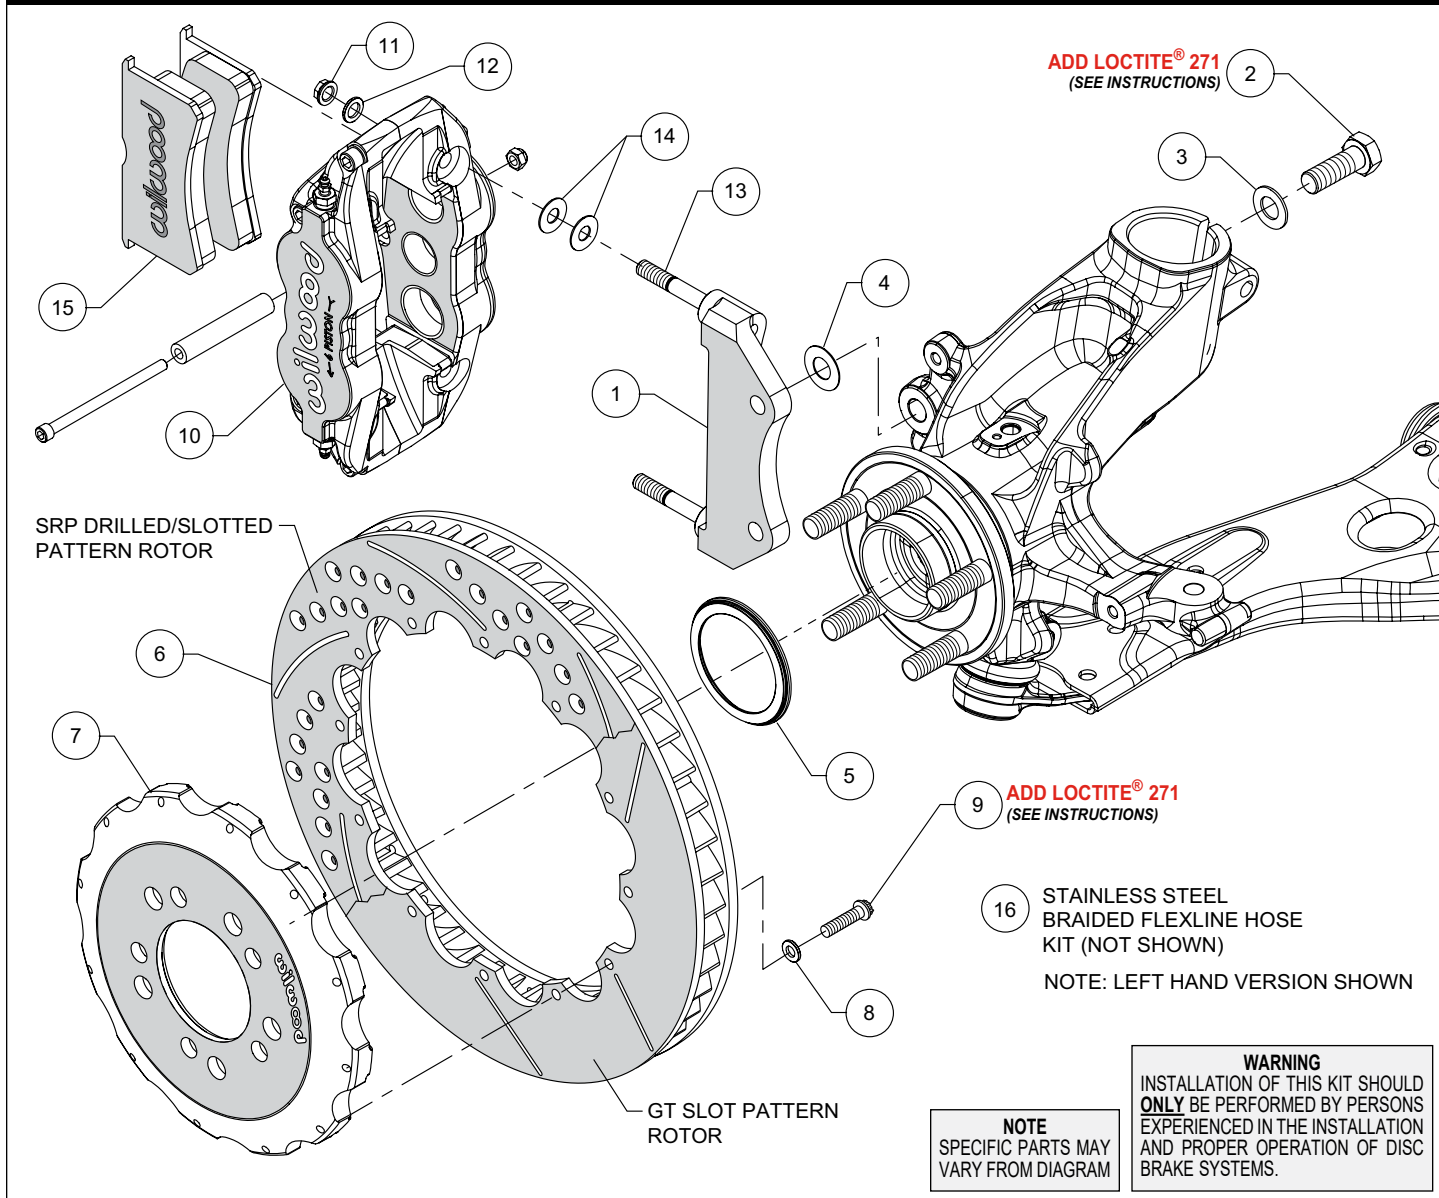
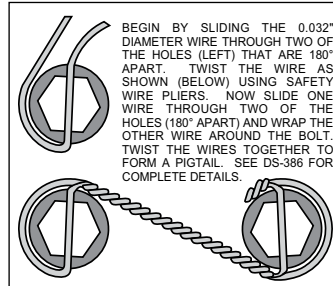

Figure 1. Typical Installation Configuration
Figure 3. Safety Wire Diagram
NOTE: Numbers in parenthesis refer to the parts list and Figure 1 on the preceding pages.
- The caliper mount bracket (1) should initially be installed with clean, dry threads on the mounting bolts. Orient the bracket as shown in Figure 1 and Photo 1, and install using washers (3) and bolts (2). Initially place one .029 thick shim (4) on each bolt between the bracket and upright, Figure 1. Temporarily tighten the mounting bolts. **NOTE:** *The bracket must fit squarely against the mount bosses on the upright.* Inspect for interference from casting irregularities, machining ridges, burrs, etc. Later, after the caliper alignment has been checked, the mount bolts will be secured using red *Loctite*® 271.
- Orient the rotor (6) and the hat (7) as shown in Figure 1 and Photo 2. Attach rotor to hat using bolts (9) and washers (8). Apply red *Loctite*® 271 to the bolt threads and torque to 155 in-lb using a criss-cross pattern. For an added measure of security, the bolts may be safety wired using standard 0.032 inch diameter stainless steel safety wire as shown in Figure 3. Please refer to Wilwood's data sheet DS-386 (available at www.wilwood.com/Pdf/DataSheets/ds386.pdf) for complete safety wire installation instructions.
- Slide the rotor registration adapter (5) onto the axle register on the axle hub with the smaller O.D. facing outward, Photo 3. Slide the hat/rotor assembly onto the axle hub. **NOTE:** *The hat must fit flush against the axle hub flange or excessive rotor run out may result.* Install three lug nuts (finger tight) to keep the hat/rotor assembly in place while continuing with the installation.
- NOTE:** *This kit contains distinct right and left hand calipers that must be mounted in a specific direction, as described below.* Initially place two .035" thick shims (14) on each stud (13) as shown in Figure 1 and Photo 4. Mount the caliper (10) onto the bracket (1) using lock nuts (11) and washers (12), Figure 1. Ensure that the caliper is mounted so that the largest pistons are at the rotor exit end of the caliper, in relation to the direction of rotor rotation. Temporarily tighten the lock nuts and view the rotor through the top opening of the caliper. The rotor should be centered in the caliper, Photo 5. If not, adjust by adding or subtracting shims (4) between the bracket and the upright. Always use the same amount of shims on each of the two mounting bolts. Once the caliper alignment is correct, remove the bracket mounting bolts (2) one at a time, apply red *Loctite*® 271 to the threads, and torque to 60 ft-lb.